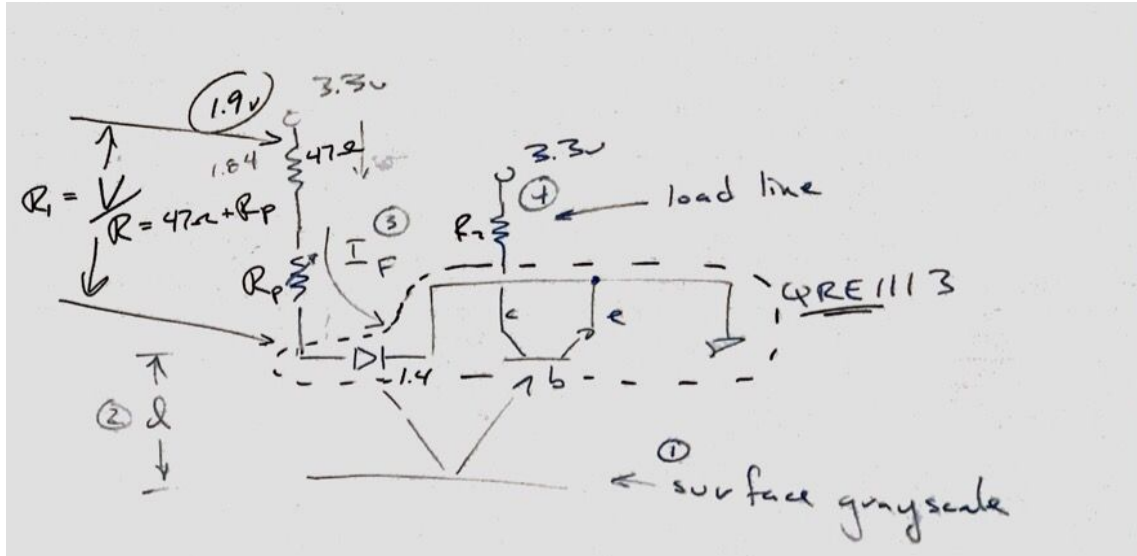

Figure 3 Experimental Circuit
From Figure 3 below we see that there are four (4) independent variables